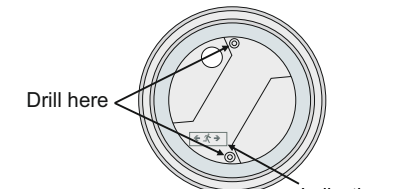

Figure 6
**Step 3.** Drill 2 holes on the base using a 4mm drill bit in order to permit the retaining screws to pass. Mark these two drilled points on the required mounting location, drill the holes and install the supplied plastic plugs. **ATTENTION!!!** Especially for the GR-280 luminaire installation on the ceiling you must align the base with the indications on the luminaire's base (Figure 6).